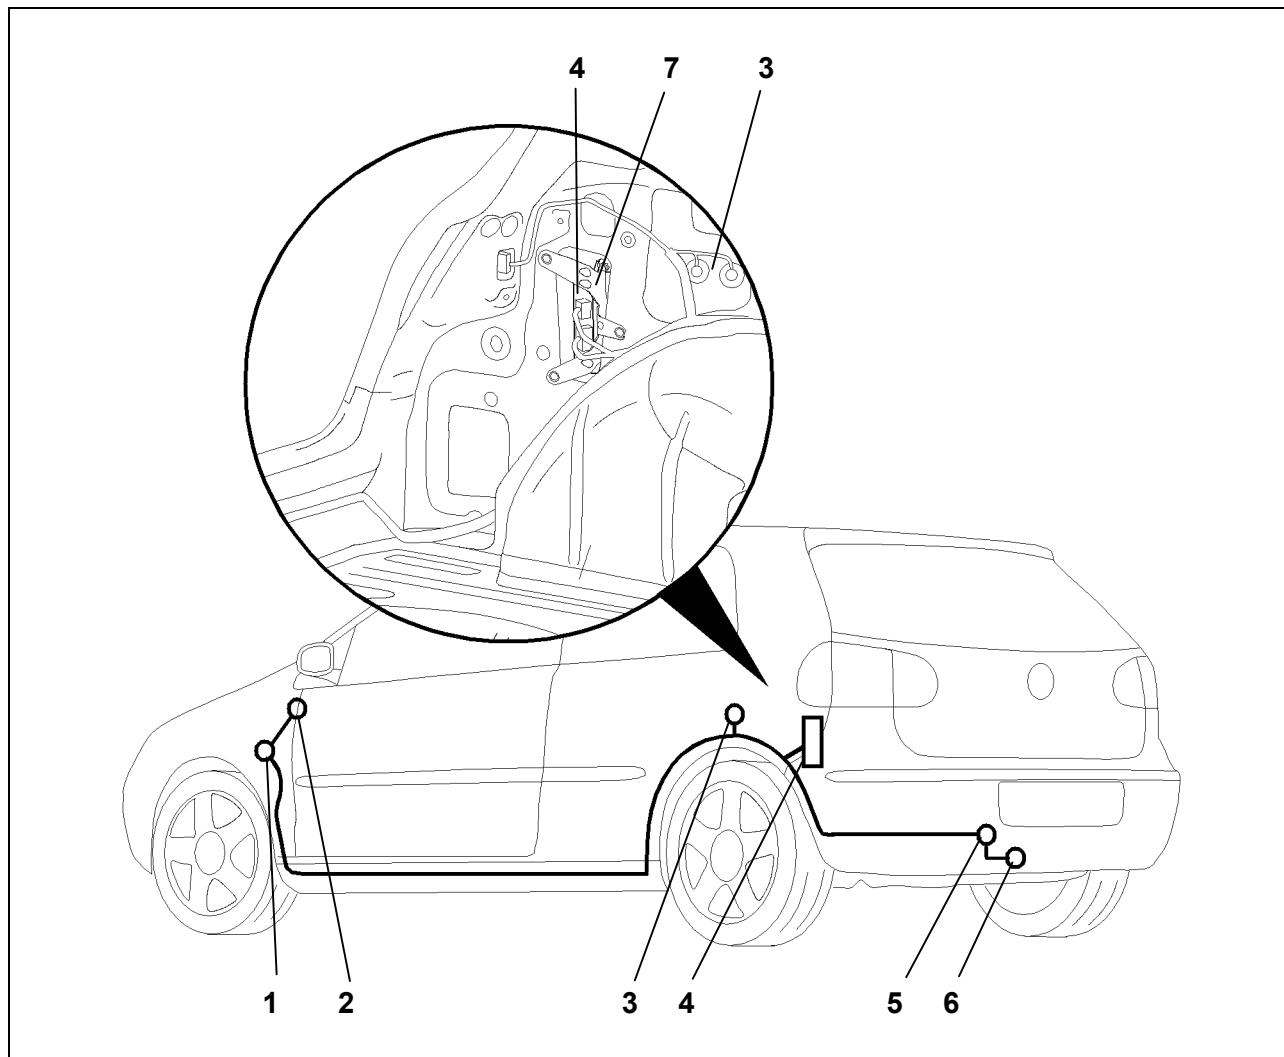

Fig. 1: Installation overview
3. Remove the vehicle's 40 mm hole cover on the left of the vehicle's centre in the rear end plate (Fig. 1/5).
4. Fasten the trailer connection unit to the supplied holding plate using the supplied M6 screws (Fig. 1/7).
5. Fasten this unit in the intended place in the luggage trunk using the supplied snap nuts and fastening screws (Fig. 1/7).
6. Lay the cable end with the 16-pin plug and the eyelet from the outside through the cable leadthrough to the trailer connection unit (Fig. 1/4).
7. Insert the rubber grommet into the cable leadthrough (Fig. 1/5).
8. Lay the socket end of the cable set to the socket holder plate (Fig. 1/6).
10. Screw the socket onto the holding plate (Fig. 1/6) using the supplied screws.
11. Insert the 16-fold connector housing into the intended slot of the trailer connection unit (Fig. 1/4) and let it lock into place.
13. Connect the brown and brown/white cables with the eyelets to the vehicle's ground point (Fig. 1/3).
14. Lay the eight-core cable set along the vehicle's cable harness / ducts to the area of the network control unit on the left side of the vehicle's front (Fig. 1/1).